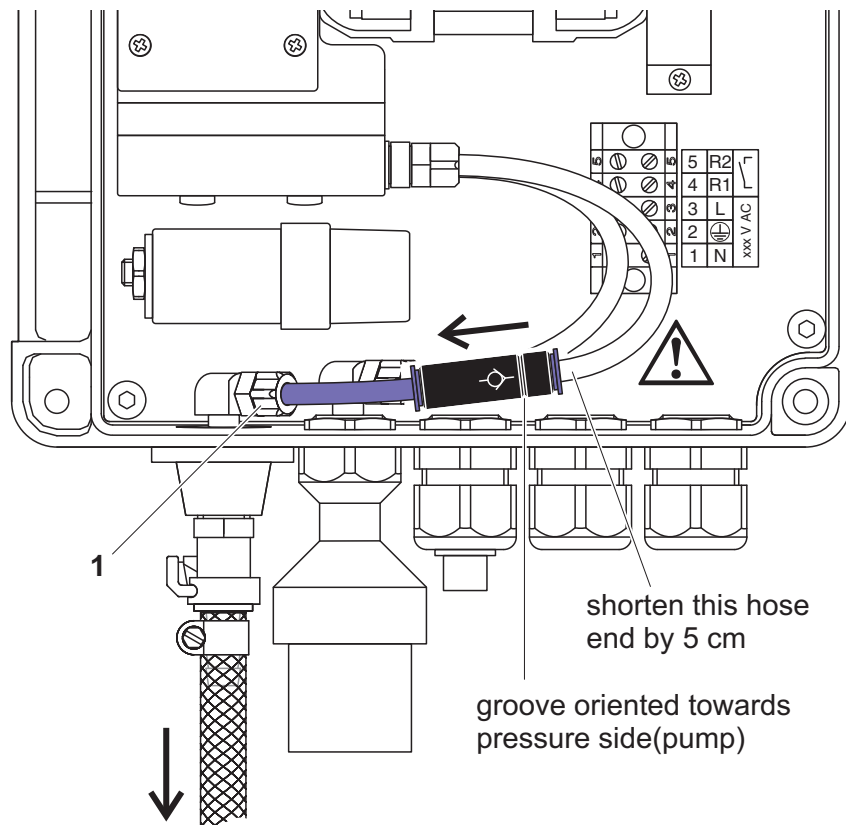

Fig. 3-3 Check valve
| 1 | Open the hose connection at the compressed air outlet. To do so, open the coupling ring (pos. 1 in Fig. 3-3) and pull off the hose. |